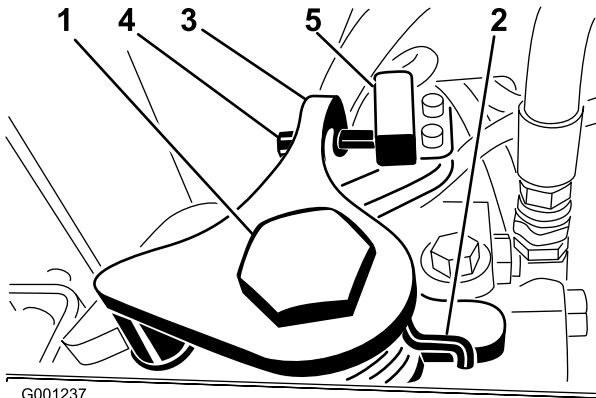

Figure 45
3. Loosen the retaining screw on the opposite side of the traction adjustment cam (Figure 45).
7. Adjust the screw on the neutral return arm (Figure 45) until the gap between the end of the screw and the switch contact is .090–.120 inch.